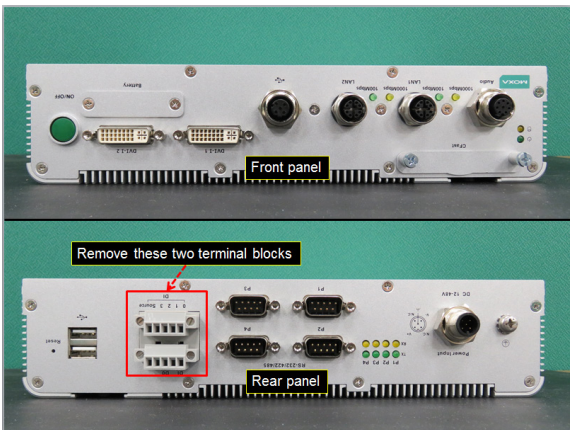

Figure 2
4.1.2 Remove the two terminal blocks on the rear panel as shown in Figure 2.